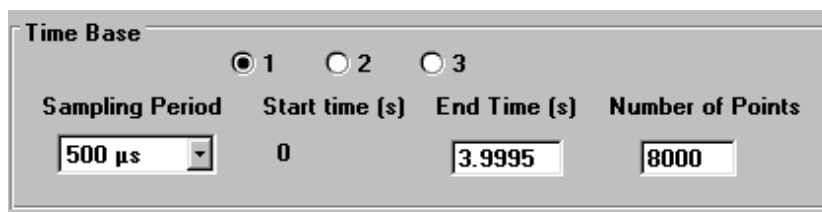

Figure 149 : "time base" area.
- Into the 'time base area' (Figure 149) the **Number of points** and **End time** parameters can be modified manually but notice that they are linked together. **Sampling Period** range is 10 μ s to 10